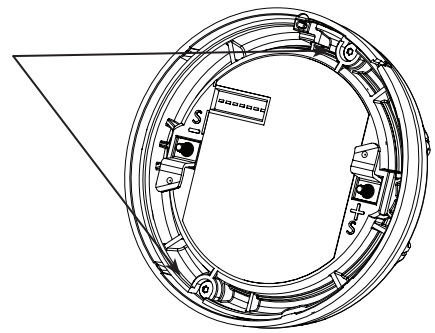

FIGURE 3: Removing Detector Cover (PD models only)
3. Remove cover from detector by removing the two screws (T10) on back of detector (FIGURE 3).